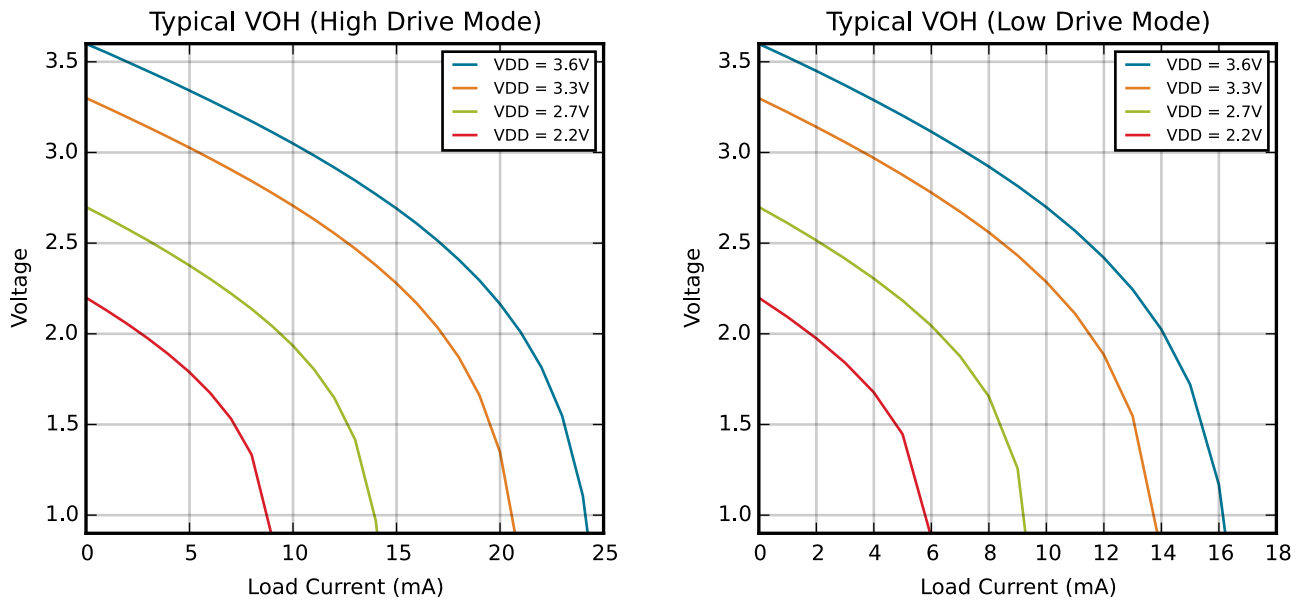
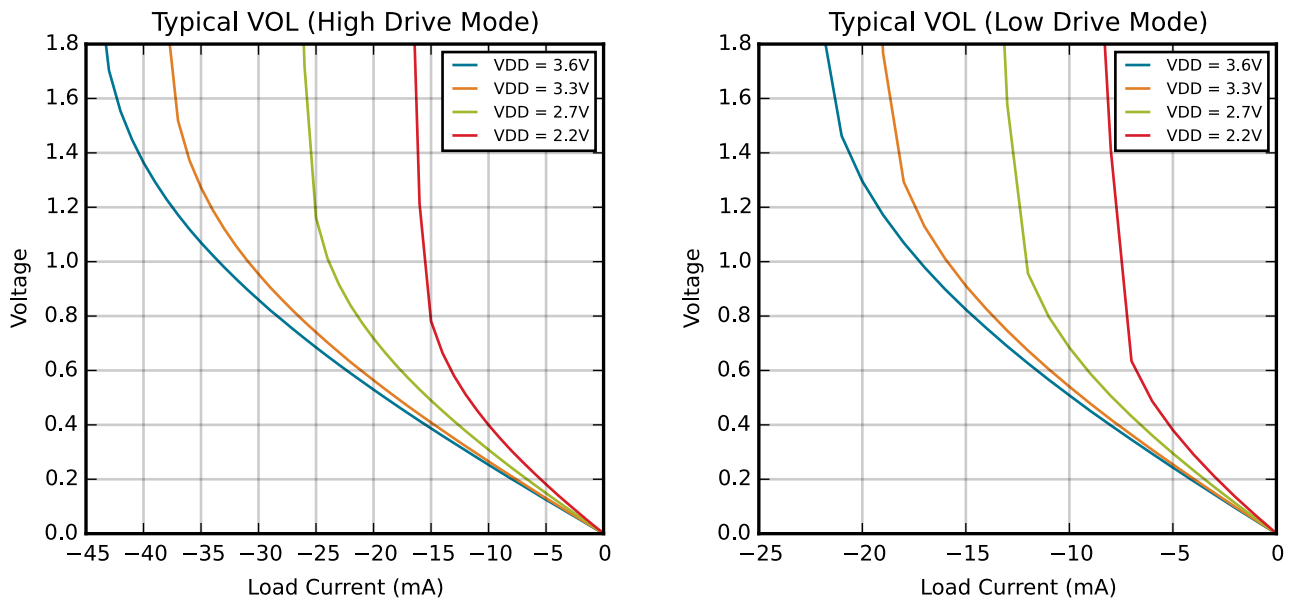

Figure 4.7. Typical VOH Curves
Figure 4.8. Typical VOL Curves
1. See Figure 4.7 Typical VOH Curves on page 34 and Figure 4.8 Typical VOL Curves on page 34 for more information.